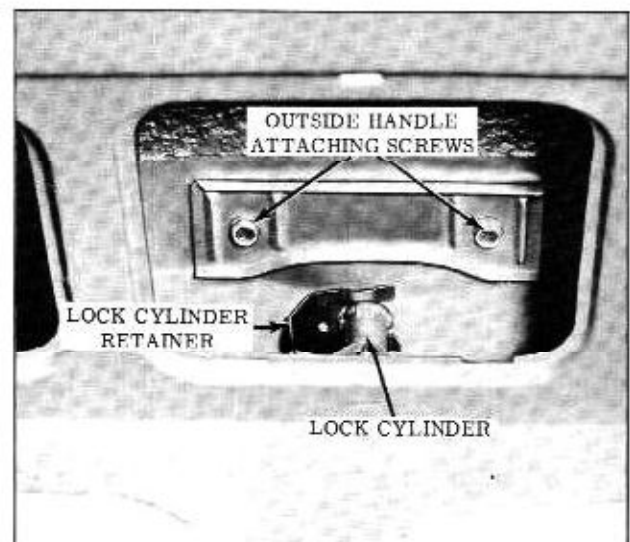

Fig. 15-39 Back Door Outside Handle & Lock Cylinder
2. Using a hooked tool or other suitable tool through access holes in door inner panel pry out lock cylinder retaining clip (Fig. 15-39) sufficiently to allow removal of lock cylinder and gasket from outer panel.